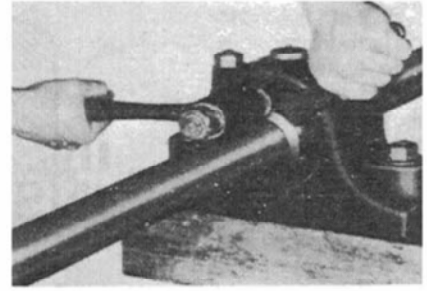

Figure 3
9. When considerable effort is required to turn adapter nut use hammer and brass bar on end of nut while simultaneously turning with wrench or barring rod—see Figure 3. When adapter seems to be tight, also use a hammer on the wrench while hammering simultaneously on end of adapter.